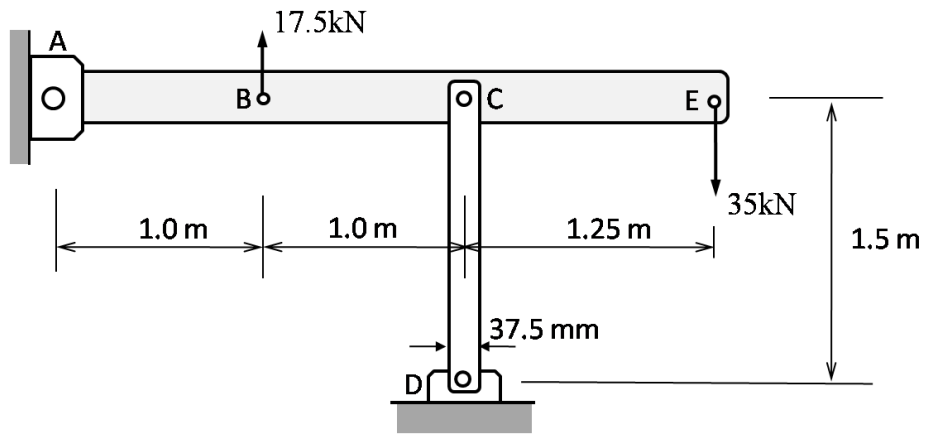

Figure 5
- (b) **Figure 5** shows a rigid horizontal beam ABCE which is supported by a pair of rectangular bars CD at C. The cross-sectional size of each of the rectangular bar is 37.5×12.5 mm. Modulus of elasticity of the bar is $E=80$ GPa. Vertical loads of 17.5 kN and 35 kN act at points B and E, respectively.